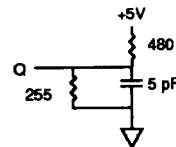

Fig. 2 OUTPUT LOAD EQUIVALENT
6.  $t_{HZCE}$  and  $t_{HZWE}$  are specified with CL = 5pF as in Fig. 2. Transition is measured  $\pm 500mV$  from steady state voltage.